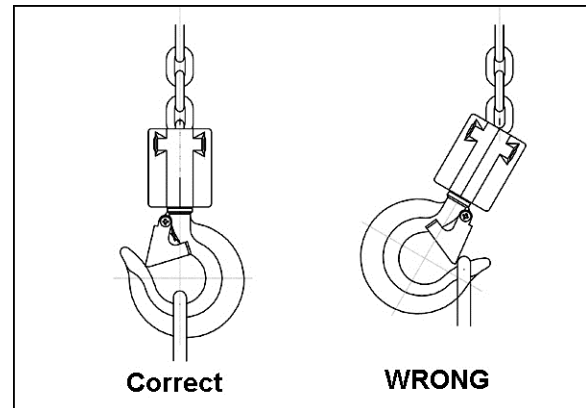

Figure 13
2. Place load sling or chain in the center of the bottom hook, making sure the safety latch is secure. **Never load the hook in front of the safety latch.** See Figure 13.